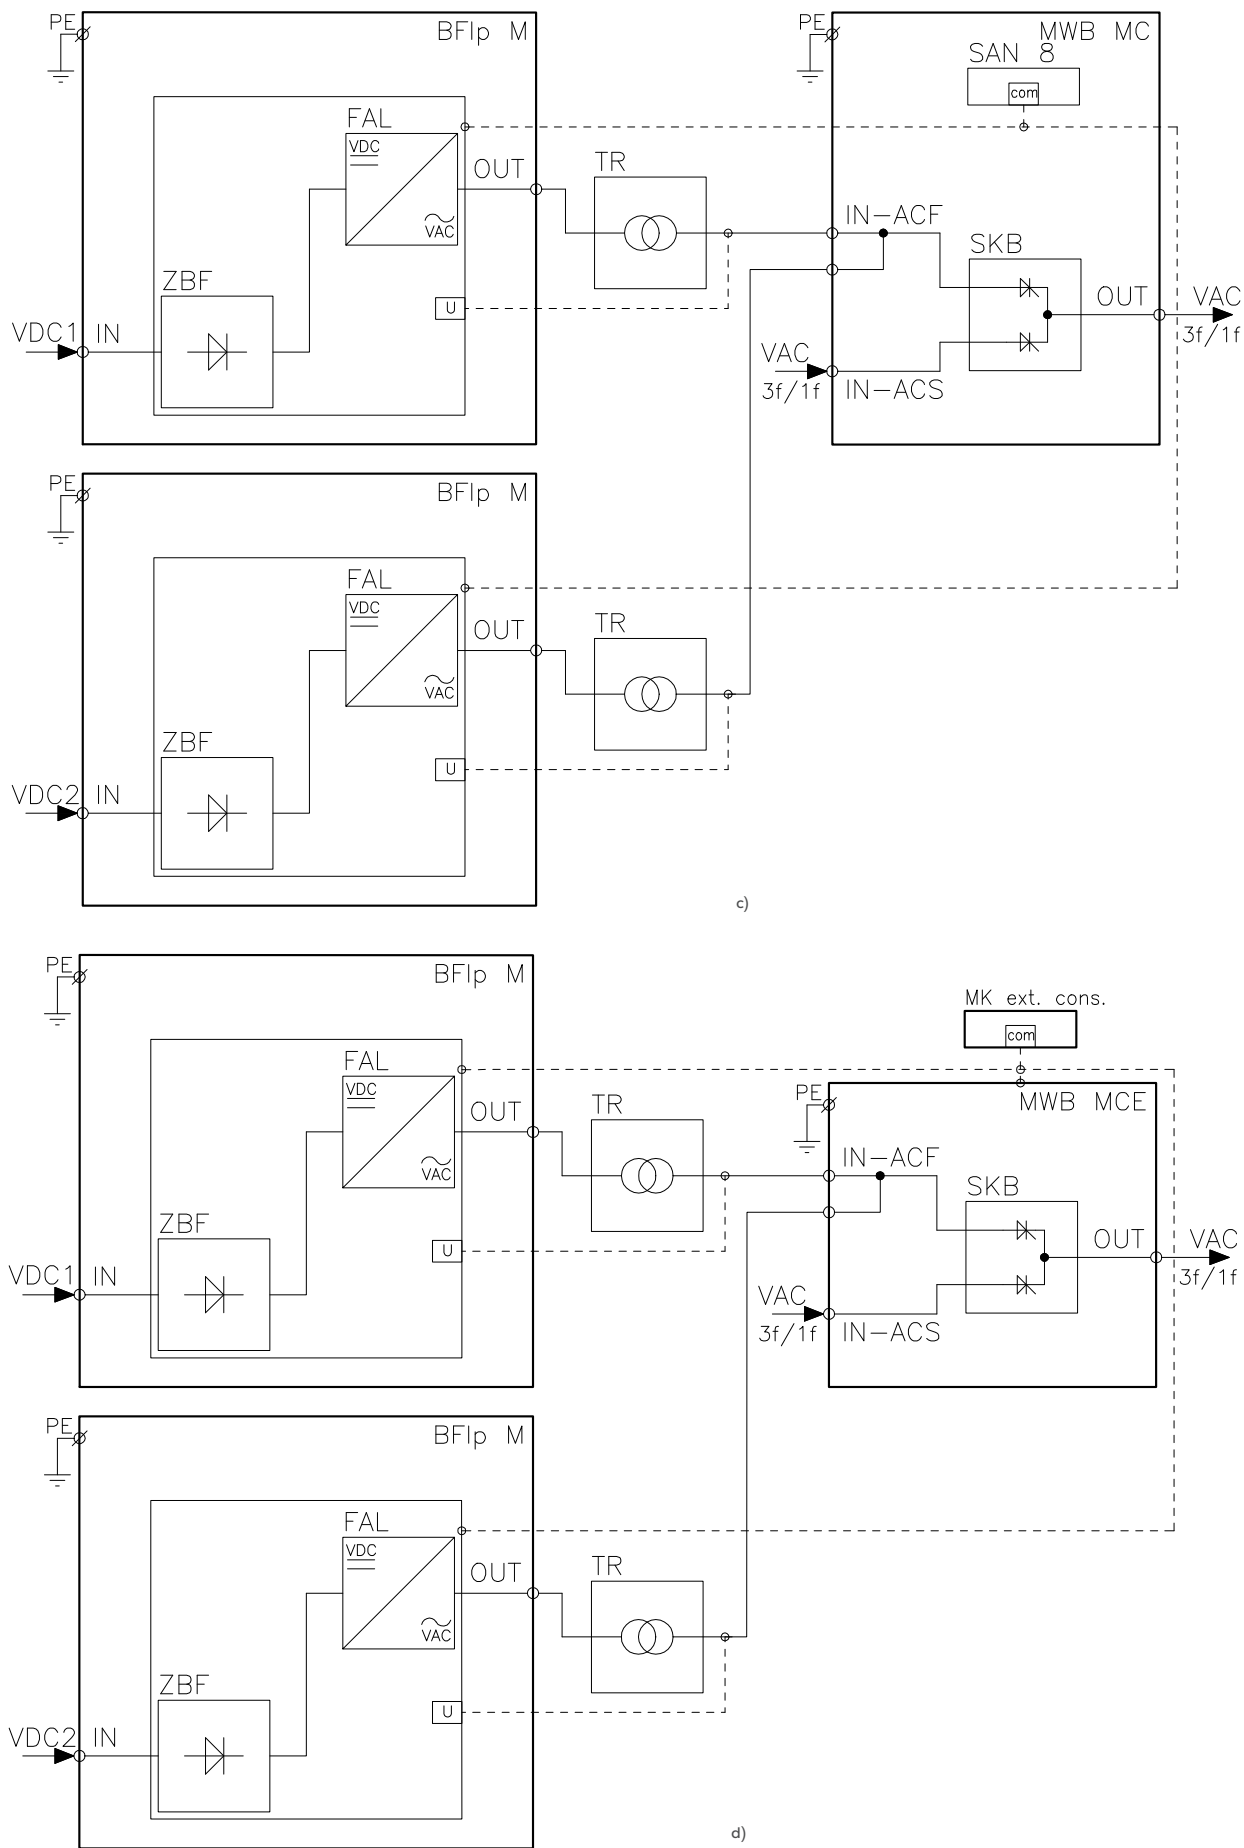

Fig. 13. Block diagram of the BFIp type inverter modules for parallel operation and the MWB module. Possible configurations:
The BFlpz inverter module is supplied by mains AC voltage and DC battery voltage (Fig. 12), while the BFlp inverter module is supplied only by DC voltage (Fig. 13). The MWB module is supplied by the backup mains AC voltage, and has two inputs to which output voltages (adapted to the client's requirements) of inverters are applied by transformers. The transformers provide isolation from supply voltages and is an ideal protection against constant component permeation to the loads in the case of an inverter's failure. The inverters parallel operation integrating module of MWB type is equipped with the SAN 8 system that controls the operating parameters of the inverters. The MWB module with a built-in console belong to the MC modules family (Fig. 13 a, c), while the modules with an external MK console are a part of the MCE modules family (Fig. 13 b, d). The BFlp / BFlpz modules without a controller belong to the M modules family.
1. High frequency DC/DC converter (Fig. 12 a, b, and Fig. 13 a, b);
2. Cut-off diode (Fig. 12 c, d, and Fig. 13 c, d).
The system includes a diode on the battery power supply circuit instead of a battery converter (Fig. 12 c, d, and Fig. 13 c, d) and is characterised by a greater reliability because of non-processing action on the DC circuit.
SERIES TYPE: 1-PHASE INVERTER MODULES 1 ÷ 10 kVA FOR PARALLEL OPERATION COOPERATING WITH A 1-PHASE 230 V / 230 V 50 Hz TRANSFORMER – AS PER FIG. 12 A, B, AND FIG. 13 A, B
SERIES TYPE: 1-PHASE INVERTER MODULES 1 ÷ 10 kVA FOR PARALLEL OPERATION COOPERATING WITH A 1-PHASE 115 V / 230 V 50 Hz TRANSFORMER – AS PER FIG. 12 C, D, AND FIG. 13 C, D
SERIES TYPE: 3-PHASE INVERTER MODULES 1 ÷ 10 kVA FOR PARALLEL OPERATION COOPERATING WITH A 3-PHASE 3×240 V / 3×400 V 50 Hz TRANSFORMER – AS PER FIG. 12 A, B, AND FIG 13 A, B
SERIES TYPE: 3-PHASE INVERTER MODULES 1 ÷ 10 kVA FOR PARALLEL OPERATION COOPERATING WITH A 3-PHASE 3×110 V / 3×400 V 50 Hz TRANSFORMER – AS PER FIG. 12 C, D, AND FIG. 13 C, D